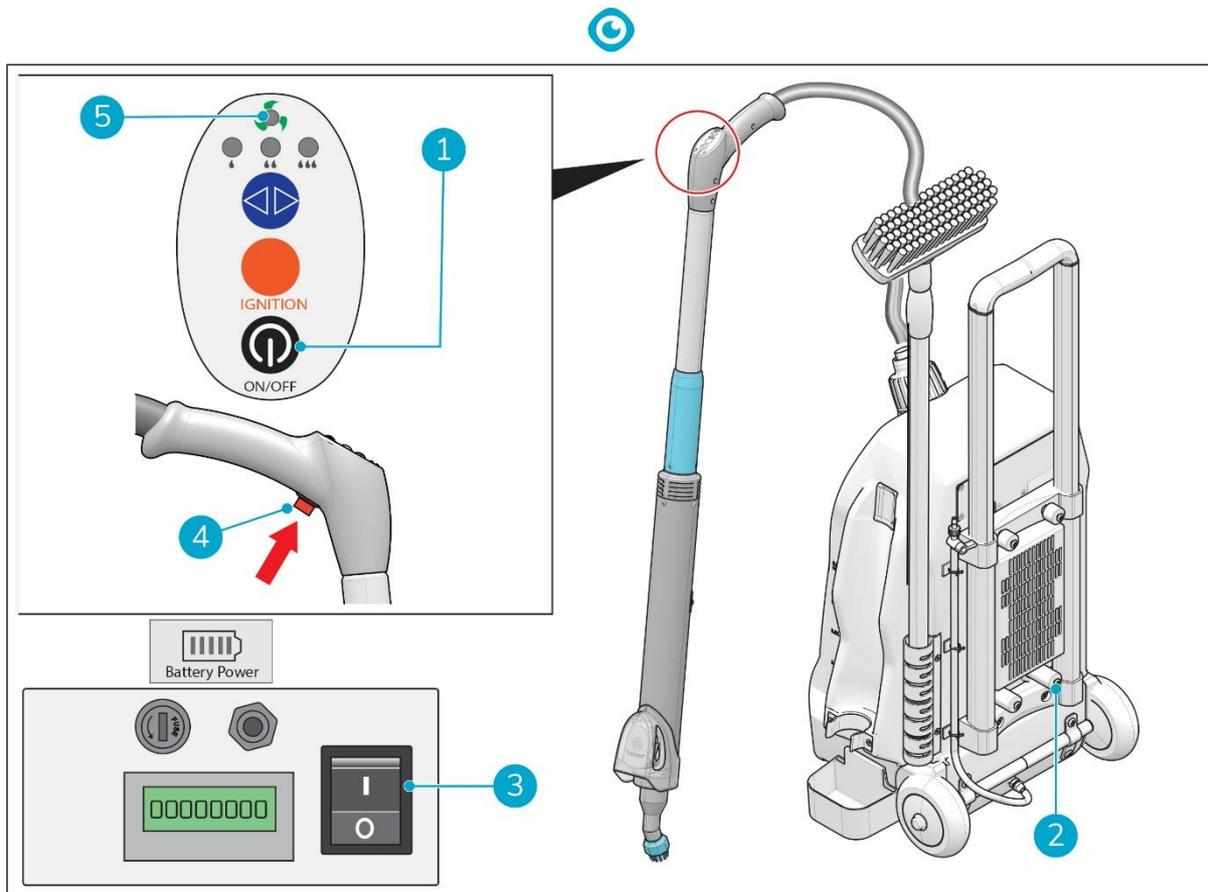

Figure 18
1. Turn off the SELF-LOCK button (Figure 18, pos 4).
2. Turn off the pump via the ON/OFF button (Figure 18, pos 1). The H/M/L indicator light goes out. The pump and the pump (Figure 18, pos 5) goes out after 3 minutes, as the ventilator needs to be cooled before storage.
6. Turn off the i-gum® via the main power switch (Figure 18, pos 3).